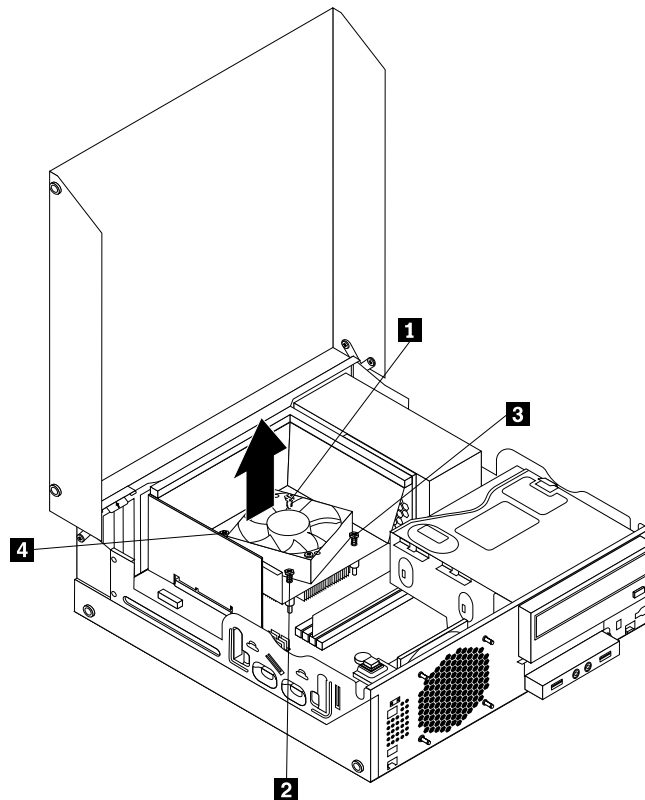

Figure 33. Screws that secure the heat sink and fan assembly
8. Follow this sequence to install the four screws to secure the new heat sink and fan assembly, as shown in Figure 33 “Screws that secure the heat sink and fan assembly” on page 50: